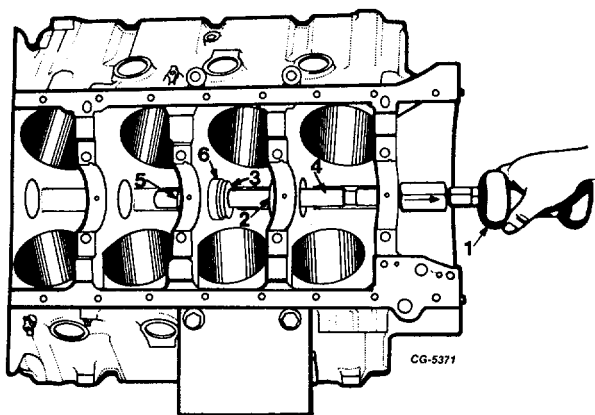

Fig. 78 Removing Third Bearing
1. Position one adapter SE-1897-7 in the second bearing with the flange to -ward the rear of the block, Fig 78.
2. Position another adapter SE-1897-7 in the third bearing with the flange toward the rear of the block, Figure 78.
4. Using the second bearing adapter as a pilot, pull the third bearing with the slide hammer, Figure 78.